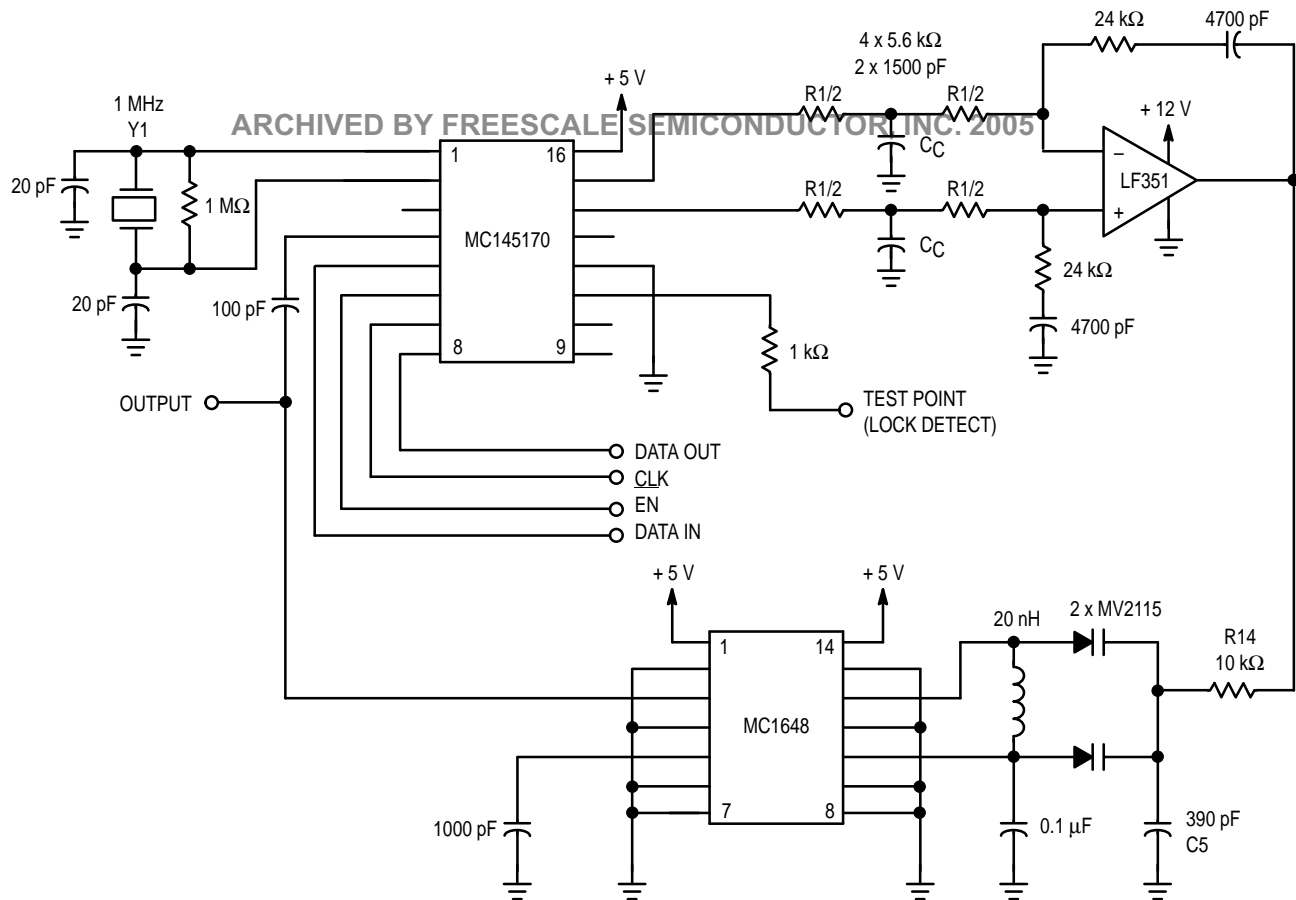

Figure 5. VHF Synthesizer
To illustrate design with the doubled-ended phase detector, the φ_R and φ_V outputs are used. This requires an operational amplifier, as shown in Figure 5. From the design guidelines shown in the MC145170 data sheet, the following equations are used:
For more demanding applications, extra filtering is sometimes added. This reduces the VCO sidebands caused by a small amount of the reference frequency feeding through the filter. One form of this filtering consists of spitting R₁ into two resistors; each resistor is one-half the value of R₁, as indicated by R₁/2 in Figure 5. Capacitors C_C are added from the
The circuit of Figure 5 may not function at very-high temperature. The reason is that the MC145170 is guaranteed to a maximum frequency of 160 MHz at 85°C. Therefore, there is no margin for overshoot (reference Figure 4) at high temperature. There are two possible solutions: (1) use the MC145170-1 or MC145170-2 which are rated to 185 MHz, or (2) limit the tuning to less than 160 MHz.